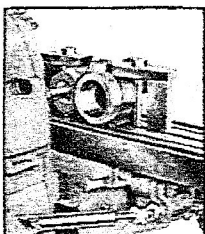
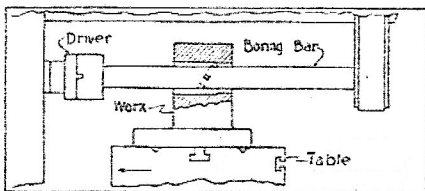

Fig. 13—BORING
Fig. 14
6. **BORING:**—For boring, a special arbor with an inserted cutting bit is used. (See fig. 14.) If the work can be bored close to the head of the miller, the use of a short shank arbor is permissible (see fig. 13); otherwise the arbor should be of such a length so that the arbor support bracket can be used to support the other end.